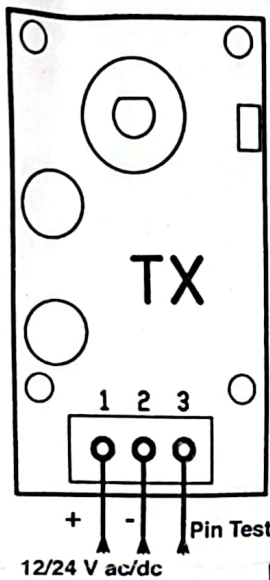
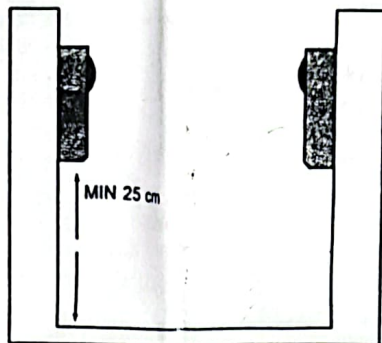

Fig. 1
Fig. 2
Installation: To open the AU 01700, lift the front panel of the photocell. Insert the cables in their housing and fix the base to the wall (Fig. 2). If the photocell has to be mounted on a wall, drill the three 5 \varnothing holes and fit suitable screw anchors. If the photocell has to be mounted on metal, drill the three 3 \varnothing holes for fitting with the self-tapping screws. Make the connections as in Fig. 1 (TX) and Fig. 3 (RX). Pin test: input located on the transmitter of the photocell, to be used only with suitable control devices; before each opening the control device sends a voltage of 12V DC to the pin test which switches the relay and checks the functioning. Fix the two photocells in frontal position, aligned on the same axis and at the same height (min. 25 cm) as in Fig. 2. Power the photocells with a voltage between 12 and 24V DC/AC. If positioning, alignment and connection have been carried out properly, the red LED on the receiver will be off. Each time the ray is interrupted, the red LED switches on. Cover the photocell with the front panel. Insert to the stop and close it. Interrupt the ray several times checking the relay response. Fix the front panels with the provided screws.